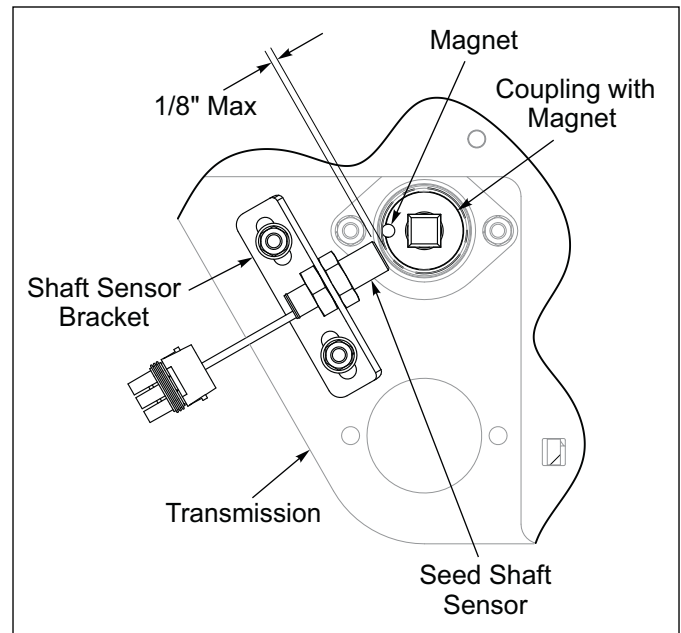

Figure 2-25: Brome Box LH Seed Shaft Sensor
6. Slide/Position Seed Shaft Sensor so it is 1/8" from the magnet. **See Figure 2-25.**